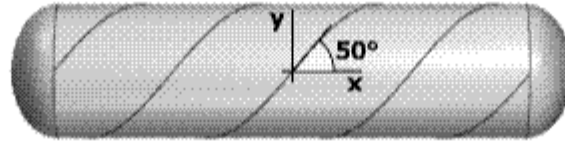

Fig. P14-10/11
14.10 The pressure tank in Fig. P14-10 is fabricated from spirally-wrapped metal plates that are welded at the seams in the orientation shown. The tank has an inside diameter of 500 mm and a wall thickness of 6 mm. For a gage pressure of 1.5 MPa, determine (a) the normal stress perpendicular to the weld and (b) the shear stress parallel to the weld.